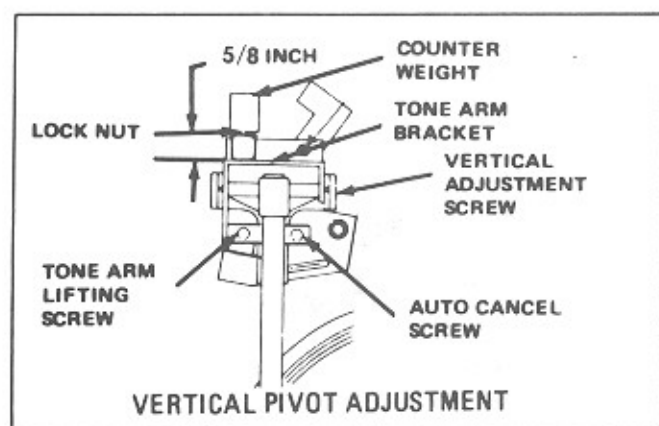

Figure 3-18. Vertical Pivot
1. The distance between the counter weight and the tone arm bracket should be 5/8 inch for 3-1/2 grams stylus force (See Figure 3-18.).